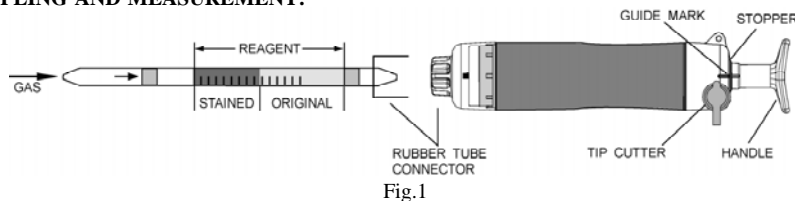

Fig.1
- ① Break both ends of the detector tube.
- ② Insert the detector tube into aspirating pump securely as shown in Fig.1. (Arrow mark shall point to the pump.)
- ③ Align the guide marks on the shaft and stopper of the aspirating pump.
- ④ Pull the pump handle at full stroke locked position and wait for 3 minutes or until the completion of sampling is confirmed with the flow indicator of the pump (See descriptions about the flow indicator in the instruction manual of the pump).
- ⑤ On completion of sampling, read the scale at the maximum point of the stained layer.